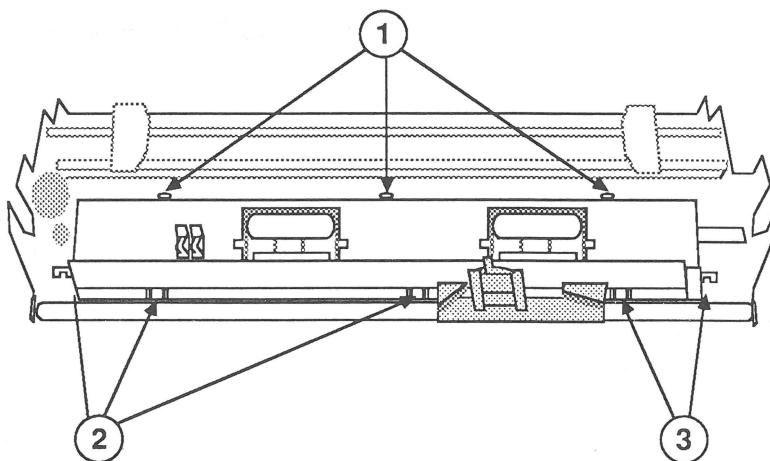

FIGURE 42
3. Remove the three screws that hold the paper guide in place (Figure 42, #1).
4. Push the carrier to the left; then gently unhook each of the three tabs (Figure 42, #2) with a small flatblade screwdriver.
5. Push the carrier to the right; then gently unhook each of the remaining two tabs (Figure 42, #3) with a small flatblade screwdriver.